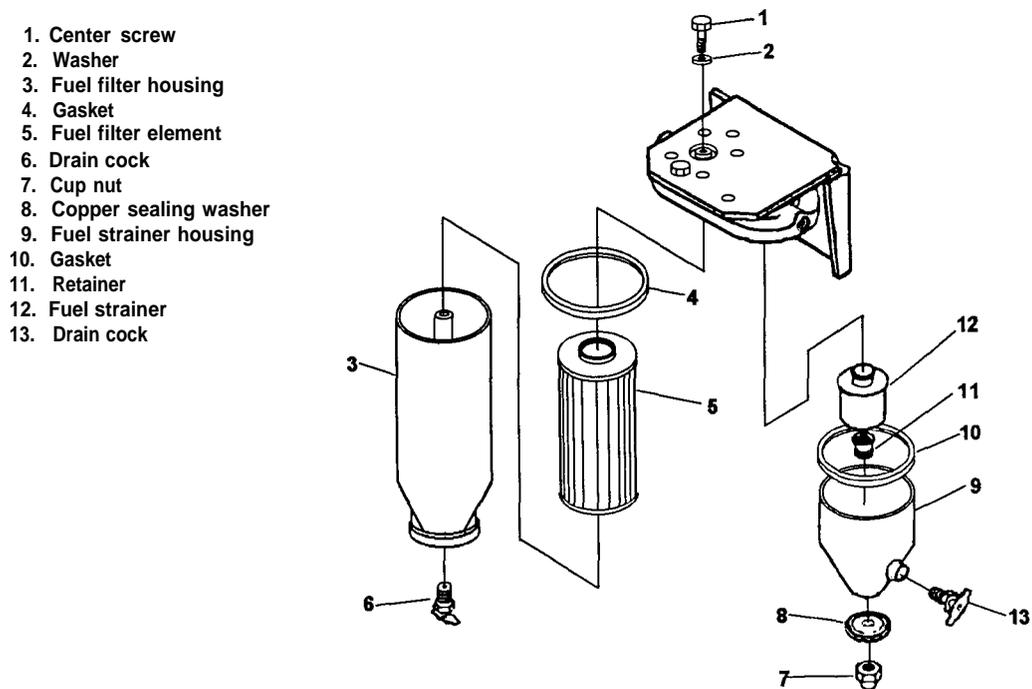

Figure 4-16. Fuel Strainer and Filter Housing, Disassembly and Reassembly
- (1) Remove center screw (1, Figure 4-16) and washer(2) to remove fuel filter housing (3) and gasket (4). Discard gasket.
- (2) Withdraw filter element (5) from housing and discard.
- (3) Do not remove drain cock (6) unless replacement is necessary.
- (4) Remove cup nut (7) and sealing washer (8) to remove strainer housing (9) and gasket (10). Discard gasket. Do not remove drain cock (13) unless replacement is necessary.
- (5) Remove retainer (11) to remove strainer (12).
- (1) If removed, install drain cock (13), (Figure 4-16).
- (2) Install strainer (12) and secure with retainer (11) finger tight.
- (3) Install replacement gasket (10) and housing (9) and secure with sealing washer (8) and cup nut (7). Tighten nut securely to prevent leaks.
- (4) If removed, install drain cock (6).
- (5) Install replacement filter element (5) into housing (3).
- (6) Install replacement gasket (4), housing (3), washer (2), and center screw (1). Torque screw to 17± 2lb-ft.
- (7) Close drain cocks on strainer and filter housings.